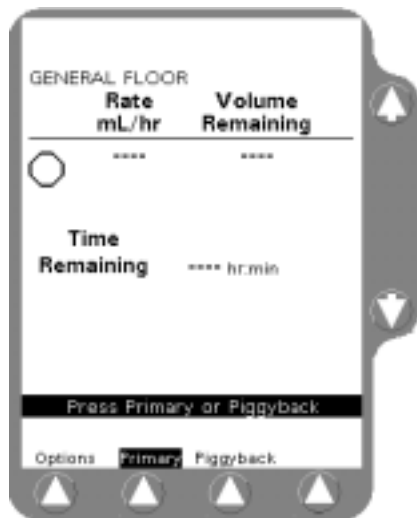

Figure 3-10 Main Display After Self-Test
- From the Power On Screen After Self-Test (Figure 3-9), press the **Main Display** key (top right of front panel) to view the Main Display screen (Figure 3-10).